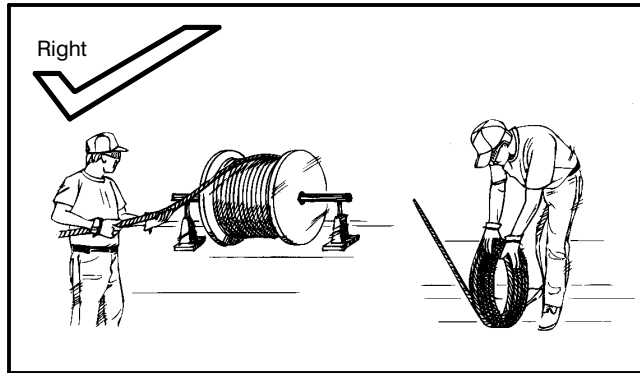

Figure 5-4
1. To avoid twists, unreel the entire wire rope on the ground in line with the boom head sheave and drum. Set the reel up horizontally so it can rotate as the wire rope is reeled off. Refer to Figure 5-4. Reel the wire rope off slowly, so the reel won't tend to "throw" the wire rope off. If the new wire rope cannot be laid out on the ground, further steps are necessary: